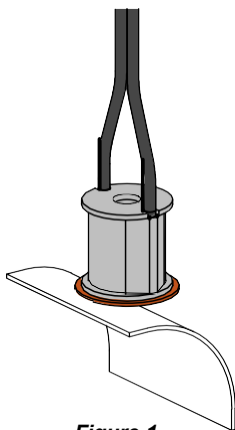

Figure 1
3. Clean the bottom surface of the coil cavity of your meter housing. This surface will be used to secure the coil assembly with permanent adhesive. Then, remove and discard the peel off liner from the bottom of the coil to expose the glue dot permanent adhesive. (See Figure 1)